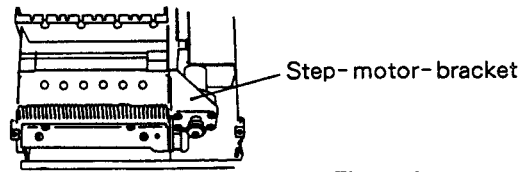

Fig. 1-6
1. Remove 4 screws retaining the step-motor-bracket .(Fig. 1-6)